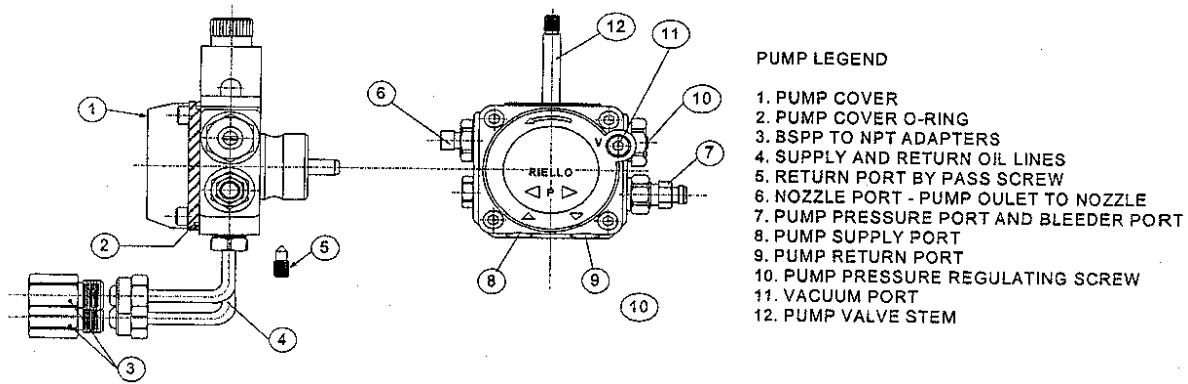

Figure 9: Riello Pump Connections and Port Identification
g. Pump Connections and Port Identification, refer to Figure 9.